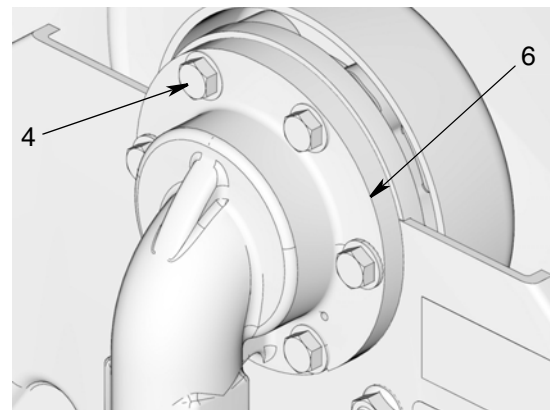

FIG. 22
- a. On the inlet side, remove bolts (4) and inlet (6) (FIG. 22).